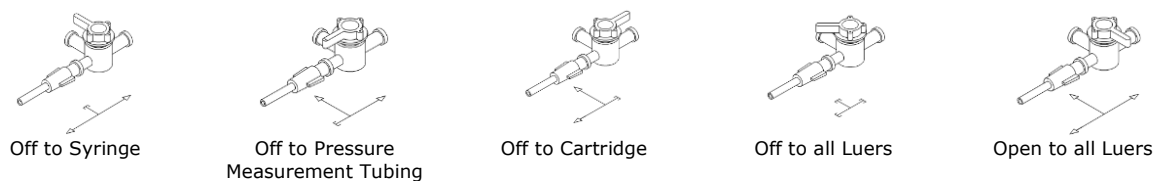

Figure 13: Stopcock Lever Positions
- Turn the stopcock lever in the appropriate directions to flush fluid from the syringe through both the cartridge and the pressure measurement tubing (Figure 13).
4. Attach a sterile fluid filled syringe to the side port of the pressure measurement tubing's stopcock. Ensure to purge air from the disposable cartridge, pressure measurement tubing, and catheter lumens. Refer to Figure 13.